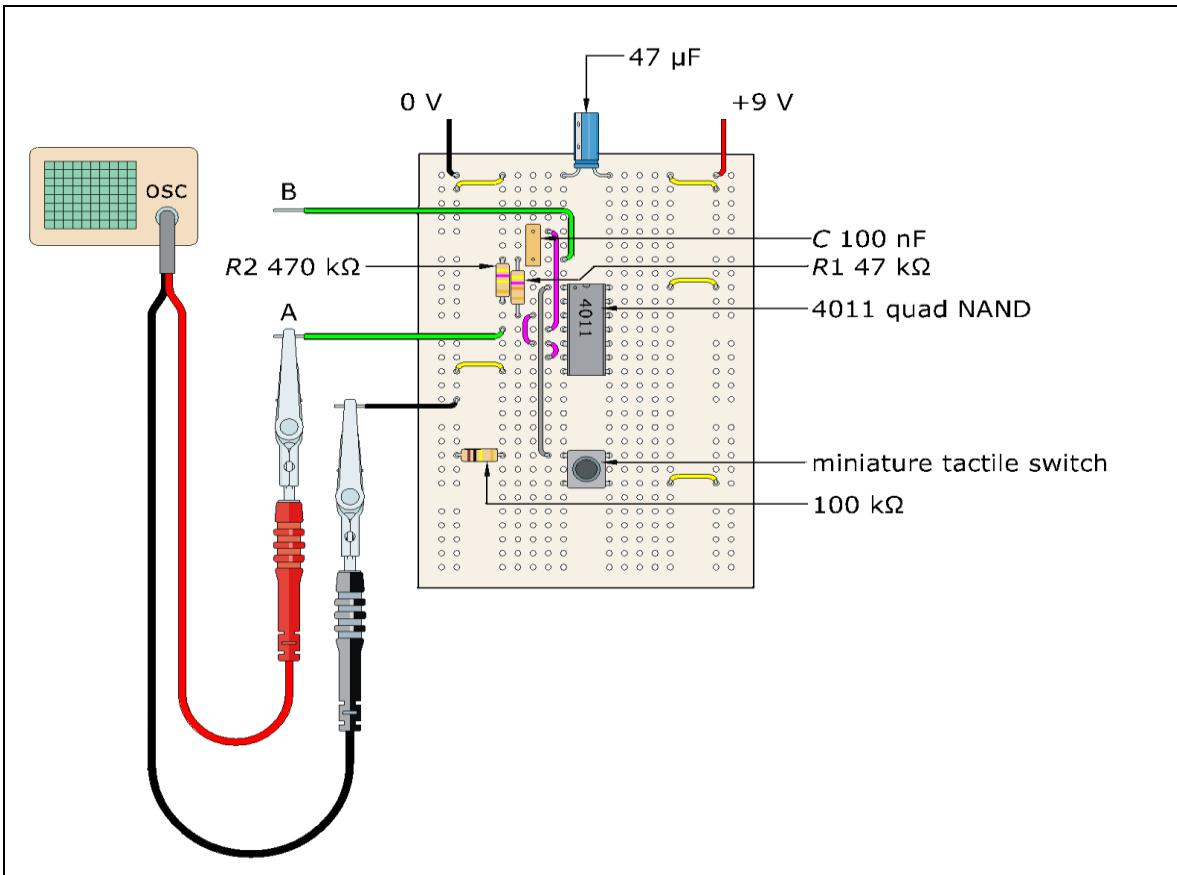

Figure 56
1. Connect the circuit as shown in Figure 56